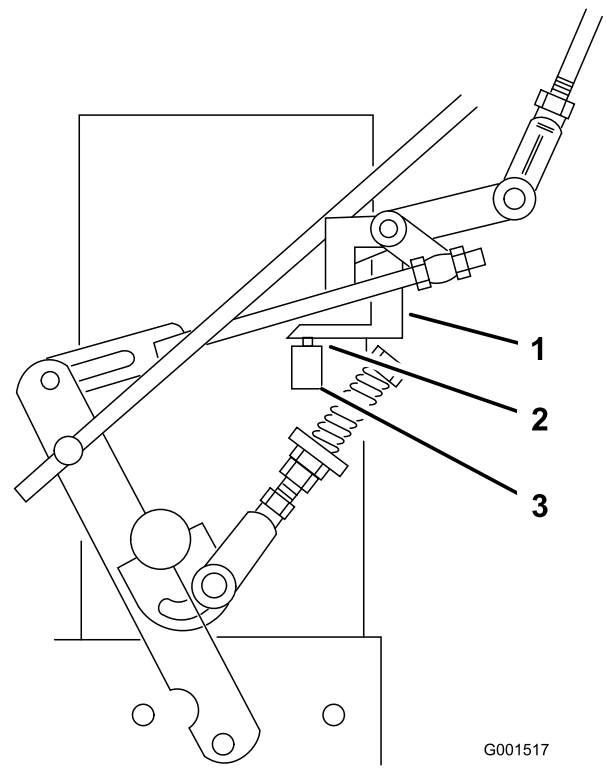

Figure 36
7. Check to make sure the safety switch is depressed and there is a 5/16 inch (8 mm) space between the actuating tab and the switch. (Figure 36).
8. If needed, adjust switch location to create the 5/16 inch (8 mm) space (Figure 36).